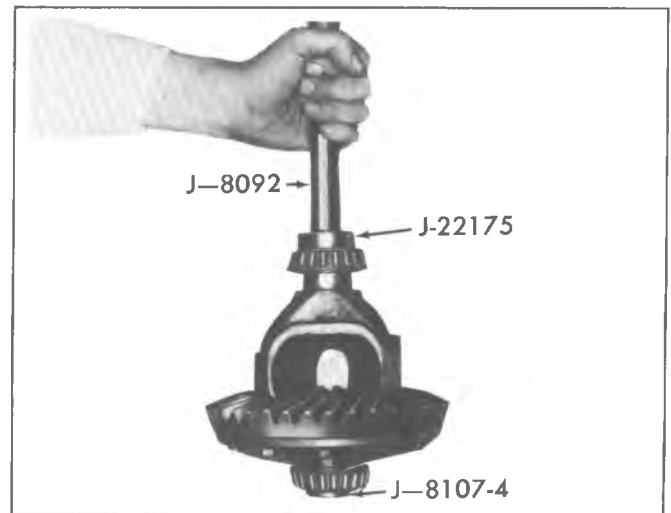

Fig. 4B--Differential Bearing Installation
3. Place new bearing on hub with thick side of inner race toward case and drive into place, using J-22175 and Driver Handle J-8092, as shown in figure 4B.
4. Before bearing installation on opposite hub, support differential case on Adapter Plug J-8107-4. This allows differential case to rest on adapter instead of bearing cage. See figure 4B. Install remaining bearing as instructed in step 3.